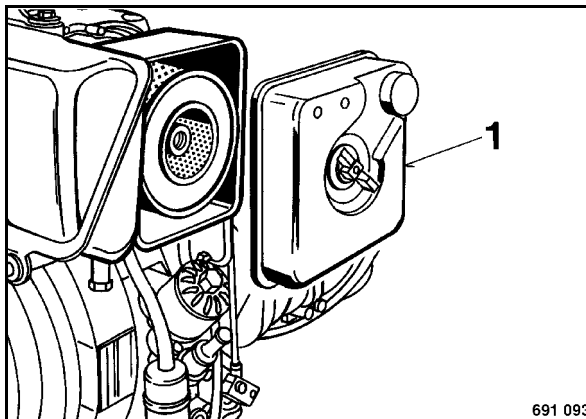

Fig. 79
- Unscrew the wing nut for cover (1) (Fig. 79) and take off the cover.